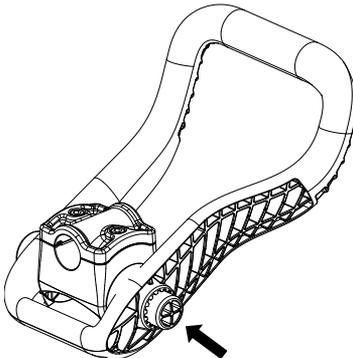

Fig. 1
1. Before using the tool, adjust the angle of the mid grip handle by pressing the red button until mid grip can rotate. Release red button when preferred angle is reached. (Fig.1)